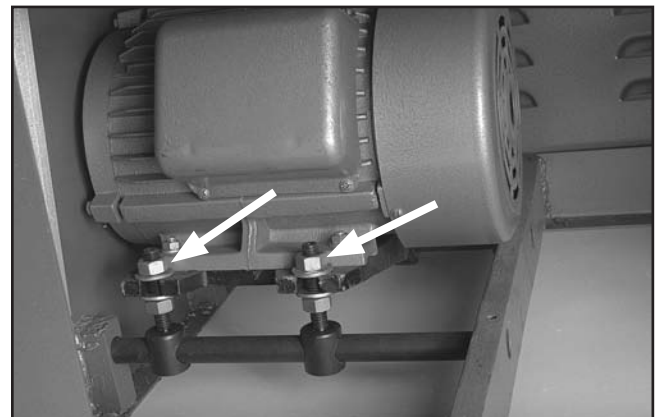

Figure 23. Fasteners needed to be loosened for V-belt replacement.
3. Using a 19mm wrench, loosen the fasteners on the tension rods shown in **Figure 23**.